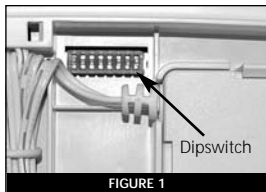

FIGURE 1
2. Find the 8-position dipswitch located on the back of each device. For this model the dipswitch is located under the back cover (see Figure 1).